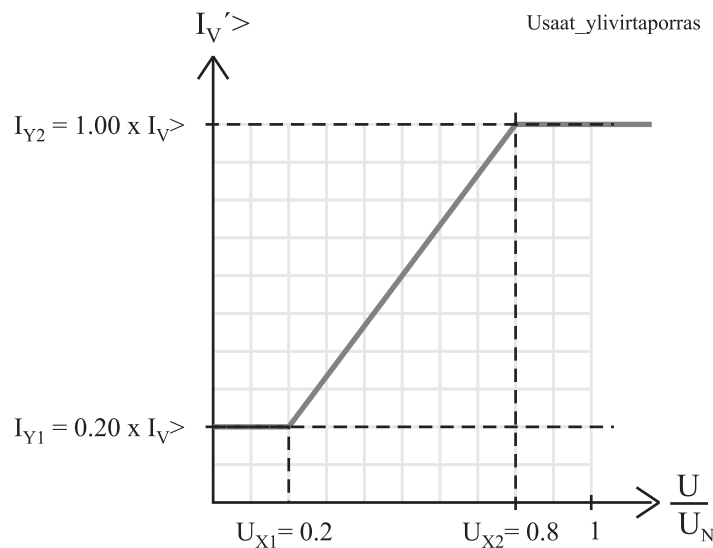

Figure 6.13: Characteristics of a voltage restrained overcurrent function $I_V>$.
In these applications the operation of the high set overcurrent function must be secured using a voltage restrained overcurrent function. At close-by short circuits the fault current rapidly decreases, thus jeopardizing the operation of the high set short circuit protection. The operation characteristic of a voltage restrained overcurrent function is shown in Figure 6.13. The under impedance protection (see Chapter 6.21 Underimpedance $Z<$ (21)) can be used for the same purpose.
When generator pole voltage falls below the set voltage level the pick-up current level of the overcurrent stage $I_V>$ also starts falling linearly controlled by the voltage according to the characteristic curve. See Figure 6.13.